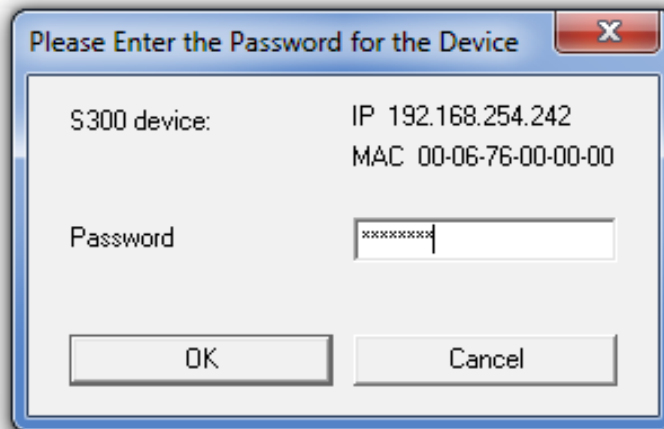

Figure 4 – S300 Login Password Screen
- 4- Once you have successfully connected to your receiver, you will be prompted to enter a password (see Figure 4 below). The default password that you can use with your new receiver is: Novra-S2.